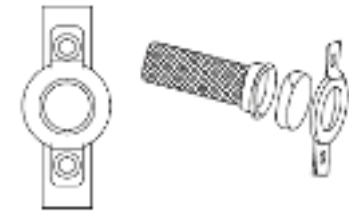

Figure-16 Spark Arrestor Screen
- To service spark arrestor See Figure-16. Remove the clamp to remove retainer.